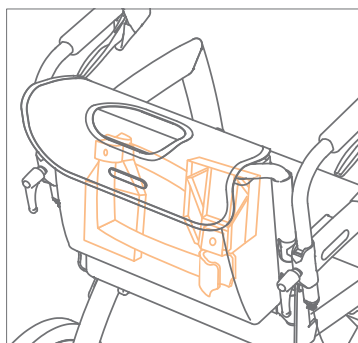

Figure 36: The footrests in the bag of the transport chair package.
- a. Hold the Rollz wheelchair package with the bag towards you (**Figure 36**).